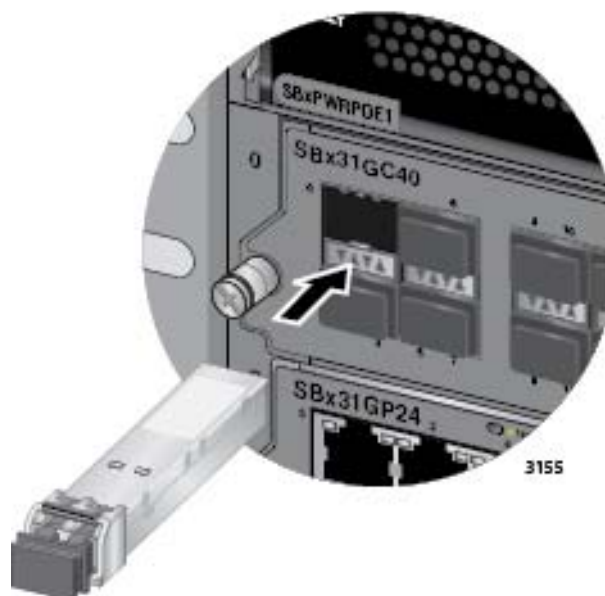

Figure 89. Inserting an SFP or a CSFP Transceiver
4. Slide the transceiver into the slot until it clicks into place, as shown in Figure 89.